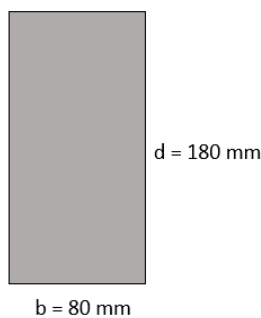
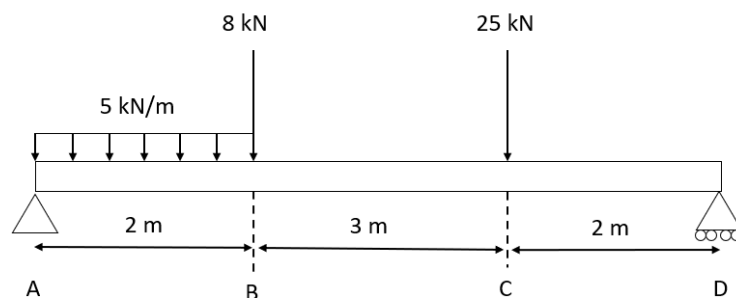

Figure 1a- Cross section
Figure 1b- Beam loading
- Q1.** Figure 1a shows the symmetrical cross section of a solid rectangular beam. Figure 1b shows the loading conditions for the simply supported beam. The beam is made from steel with a modulus of elasticity, $E = 200 \text{ GPa}$.